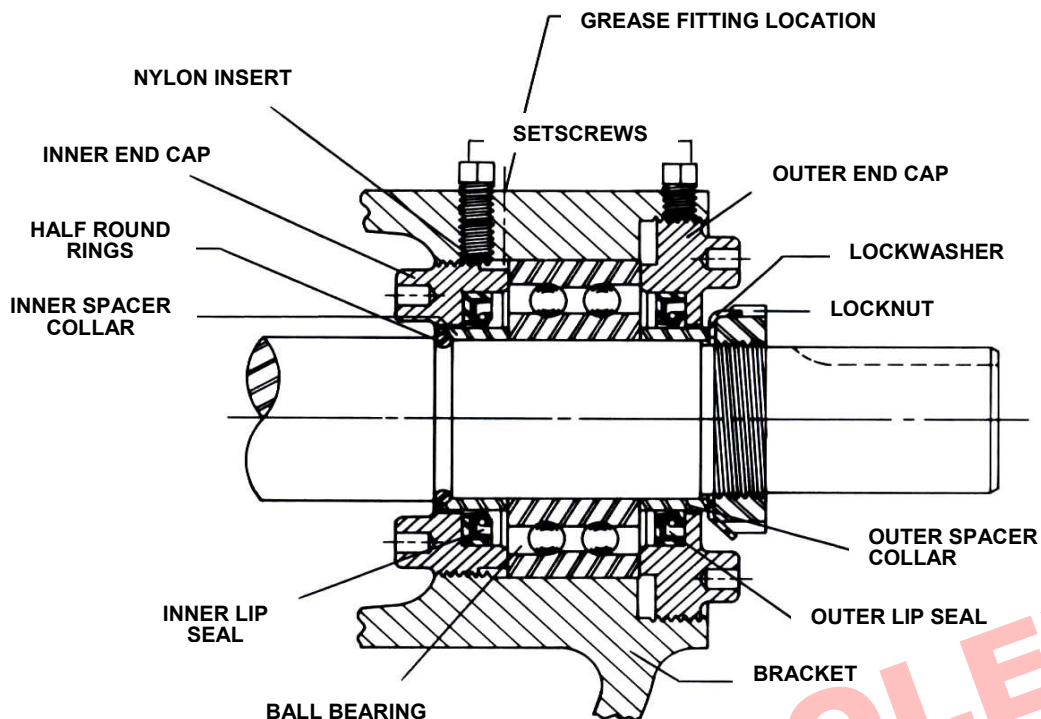

FIGURE 5
- Loosen setscrews. Two on H and HL size pumps, four on all other sizes. With a spanner wrench, remove both end caps with lip seals. Remove ball bearing. Refer to **Figure 5**.
- Slide inner spacer collar over shaft with recessed end facing rotor. H and HL size bearing spacer collars are not recessed. Place pair of half round rings on shaft and slide inner bearing spacer collar over half round rings to lock them in place. There is no pair of half round rings on H and HL size pumps. **Refer to Figure 5**, page 4.
- Press lip seal, lip facing end of shaft, in inner end cap and insert end cap through shaft end of bracket. Turn end cap clockwise, looking at shaft end, until it engages threads. End cap spanner wrench holes must be facing rotor. Turn end cap with spanner wrench until it projects slightly from opening on side of bracket. End cap must not be turned so far that lip seal drops off end of spacer collar on shaft or end cap becomes disengaged from threads. **Refer to Figure 5**, page 4.
- Press lip seal, lip facing end of shaft, in outer end cap and insert end cap in bracket. Turn end cap in bracket until it is tight against bearing. **Refer to Figure 5**, page 4.
7. Loosen setscrews. Two for H and HL size pumps, four for all other sizes. With spanner wrench remove both end caps and lip seals. Remove ball bearing and spacer collars. **Refer to Figure 5**, page 4.